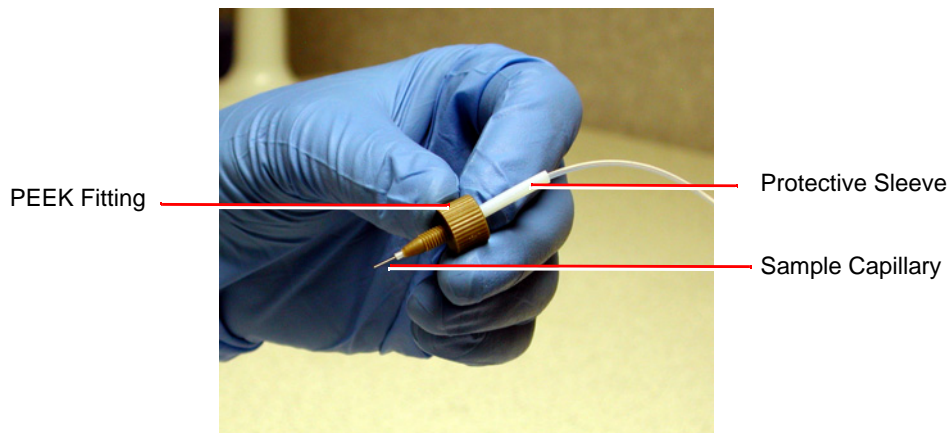

Figure 8-28 PEEK Union Showing Protruding Capillary
- Slide the protective sleeve over the joint between the two PTFE sleeves; this prevents the sample capillary kinking at this point and ensure the sample capillary protrudes a few millimeters through the PEEK Union (Figure 8-28).